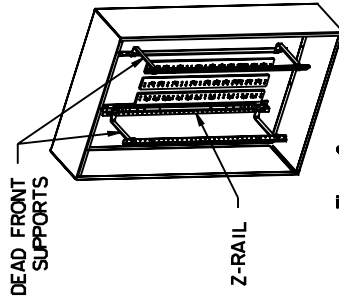
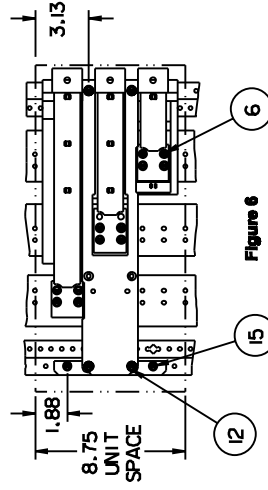

Figure 2
Figure 6
3. Reference fig. 2 - To mount a LMD or MG Frame breaker, 8-3/4" of empty unit space is required. To locate the mounting position, measure from the top dead front support to the top of the empty unit space filler on the dead front. Transfer this dimension from the dead front support along the Z-rail and mark. This will be the unit space as shown on Fig. 6. After marking the Z-rail, remove the dead front.
7. Reference fig. 6 - Installing the Support Barrier assembly. Deep Kit: Locate a $\varnothing 0.228$ " diameter hole on each Z-rail 1-7/8" down from the top of the 8-3/4" unit space selected in Step 3. Insert one 1/4-20 X 1/2" screw (item 15) through the top $\varnothing 0.312$ " diameter hole on each Mounting Bracket and then into the selected holes in the Z-rails. Repeat this step to install one 1/4-20 X 1/2" screw into the bottom hole of each Mounting Bracket. Shallow Kit: Locate a $\varnothing 0.228$ " diameter hole on each Z-rail 3-1/8" down from the top of the 8-3/4" unit space selected in Step 3. Insert one 1/4-20 X 1/2" screw (item 12) through the top two holes of the Support Barrier and then into the selected holes in the Z-rails. Repeat this step to install one 1/4-20 X 1/2" screw into the bottom holes of the Barrier.